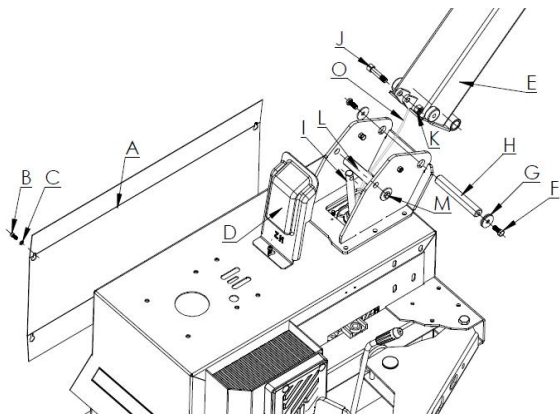

Fig.7
- As. Fig.7, Use 6mm inner hexagon spanner to take off four pieces screw B and washer C, then take off the side cover A and cover D as fig.7.
- Lift column E as fig.7, make the pin hole of column and body in line, insert pin axis H, tighten screw F and washer G (screw M12x25) (If column can not be fixed in, loose screw M, after installation finished, tighten screw M again.) .
- Lift cylinder rod I at maximal and adjust the direction of column E as Fig.7, make pin hole of column J direction and cylinder rod I direction in line, insert pin axis J, tighten screw K. (screw M12x55, M12).
- Install side cover A and cover D, fasten with screws as Fig. 7.